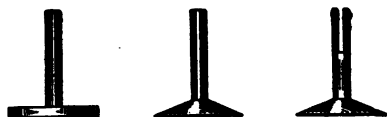

Fig. 46. Types of Rivets for Brake Linings
**Brake Linings.** *Types of Rivets.* Rivets used for brake linings are of three kinds, the flat head, countersink, and split rivets, Fig. 46. The former is headed like an ordinary nail and may be procured in a number of head-diameter sizes. The countersink rivet has a head which is flat on top and tapered underneath to fit a countersunk hole. The split rivet has a countersunk head with a split shank to permit the bending over of the ends like a cotter pin.